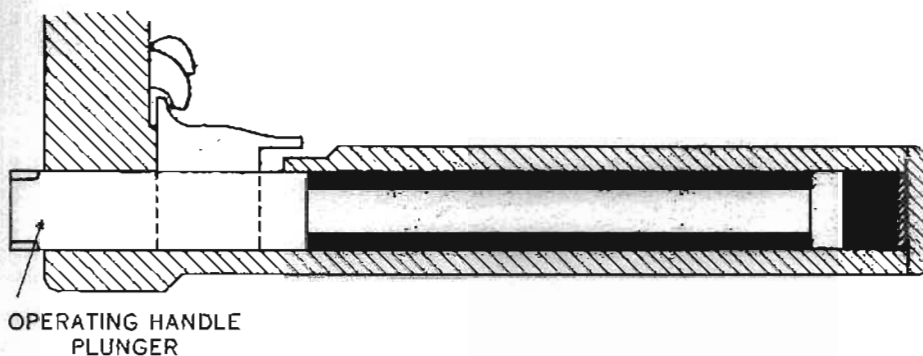

Figure 25
- B. Breechblock will remain locked until gun is fired or operating handle is pushed forward (fig. 25).